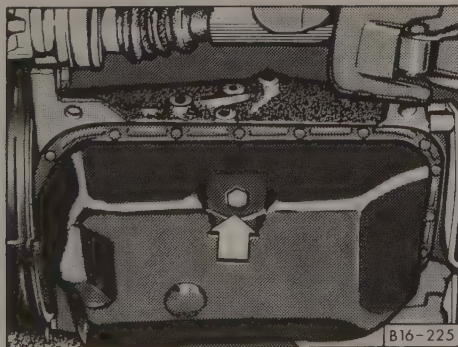

Fig. 4-3. Engine oil drain plug (arrow) in oil pan underneath engine (shown from rear).
2. With the car on level ground, place a drain pan under the oil drain plug shown in Fig. 4-3.